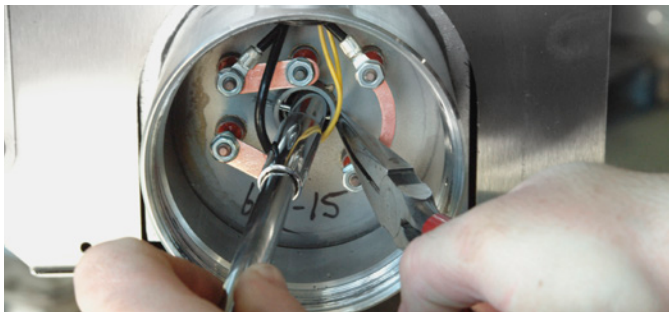

Figure 13
- 3.4 Reinstall the temperature high-limit assembly with the snap ring and spring into the thermowell without damaging the insulating tube. Secure in place with the cotter pin (see Figure 13, page 19).